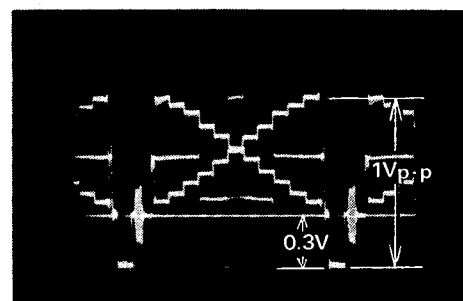

Fig 7.33 Y Gain Adjustment
- (1) Remove the lens cap to focus on the grey-scale pattern, full scale, and effect the procedure detailed in Section 7.2.7.1 (TP-1 = 0.6V)
- (2) Connect the oscilloscope probe between the PAL-type VIDEO output and the GND terminals on the SSG and Encoder PCB (CA 3501A)
- (3) Confirm that the synchronous signal level of the output waveform is maintained at approximately 0.3V
- (4) Adjust VR22 **Y GAIN** potentiometer on the Video Process PCB (CA 1501A) to set the Y-gain at 1V p-p as shown in Figure 7.33.